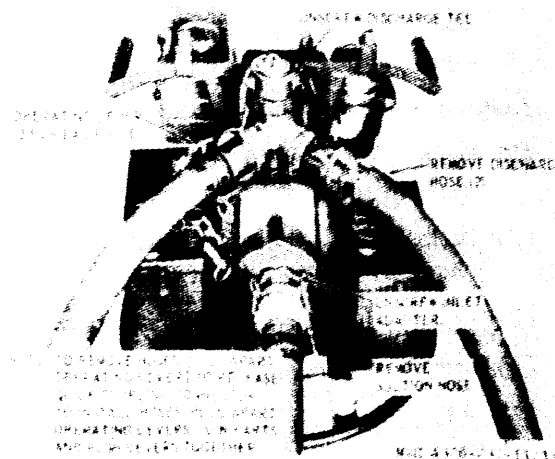

Figure 33. Hoses and fittings, removal and installation.
a. *Removal.* Refer to figure 33 and remove the hoses and fittings.
- (1) Flush the hoses with an approved cleaning solvent which will not attack the rubber material from which they are fabricated. Wipe the exterior of the hoses with a cloth dampened with an approved cleaning solvent. Clean all fittings by immersing in solvent.
- (2) Inspect the suction hoses for cracks, leaks, signs of deterioration, worn or damaged fittings, collapsed walls, and other damage.
- (3) Inspect the discharge hoses for cracks, leaks, signs of deterioration, worn or damaged fittings, and other damage.
- (4) Inspect the discharge tee and inlet adapter for damage which could affect the sealing characteristics of the part.
- (5) Check that every female connector has a mating plug and that every male connector has a cap to prevent entry of dirt. Replace all damaged and missing parts.
c. *Installation.* Refer to figure 33 and install hoses and fittings